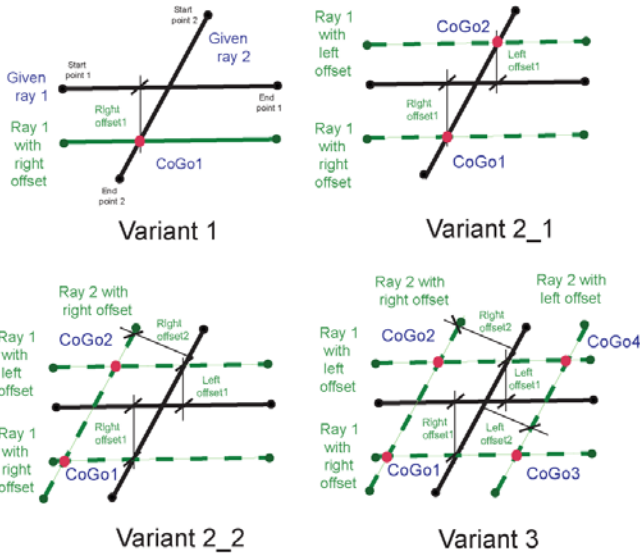

Figure 9-73. The different variants of calculating intersection with offset(s) defined by ray(s)
- only one intersection point is created for a single offset (left or right) of one ray (Variant 1 on the Figure 9-73 on page 9-52),
- left and right offsets of one ray (Variant 2_1 on the Figure 9-73 on page 9-52)
- left and right offsets of one ray and a single offset (left or right) of another ray (Variant 2_2 on the Figure 9-73 on page 9-52)
- four intersection points are created for left and right offsets of one ray and left and right offsets of another ray (Variant 3 on the Figure 9-73)
2. Specify the start points of the desired rays/lines/circles in the *From 1* and *From 2* fields of the *Intersection* window, and the end point of the line/ azimuth of the ray/radius of the circle in the *Direction*/*Dist*/*Ground Dist* fields respectively (Figure 9-73). To specify the needed offsets enter the value(s) to the corresponding fields of the *Offsets* row